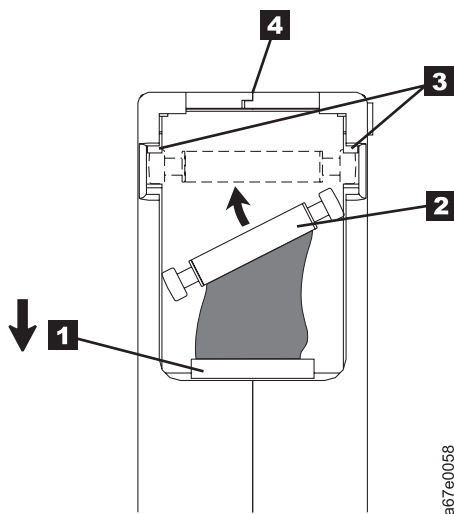

Figure A-5. Placing the dislodged leader pin into the correct position. The cartridge door is open to show the leader pin.
1. Slide open the cartridge door (**1** in Figure A-5) and locate the leader pin (**2**) (you may need to shake the cartridge gently to roll the pin toward the door).